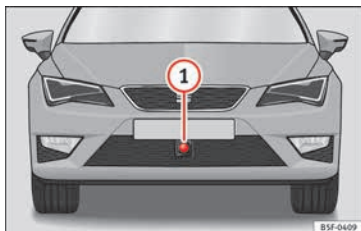

Fig. 194 On the front bumper: radar sensor.
» Fig. 194 ①. This sensor can detect vehicles in front up to a distance of approximately 120 m.